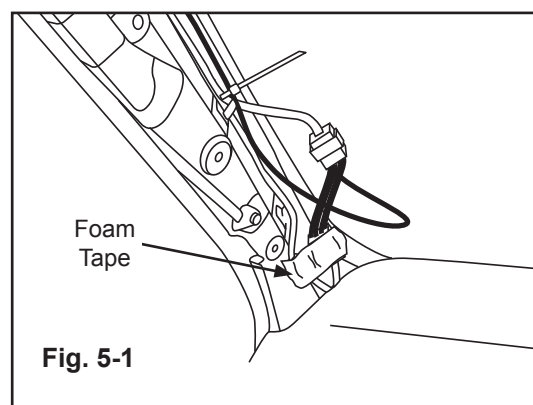

Fig. 5-1
a) Place (1) piece of foam tape on top of the small OE connector and the lower connector to prevent the EC harness from rattling. (Fig. 5-1)